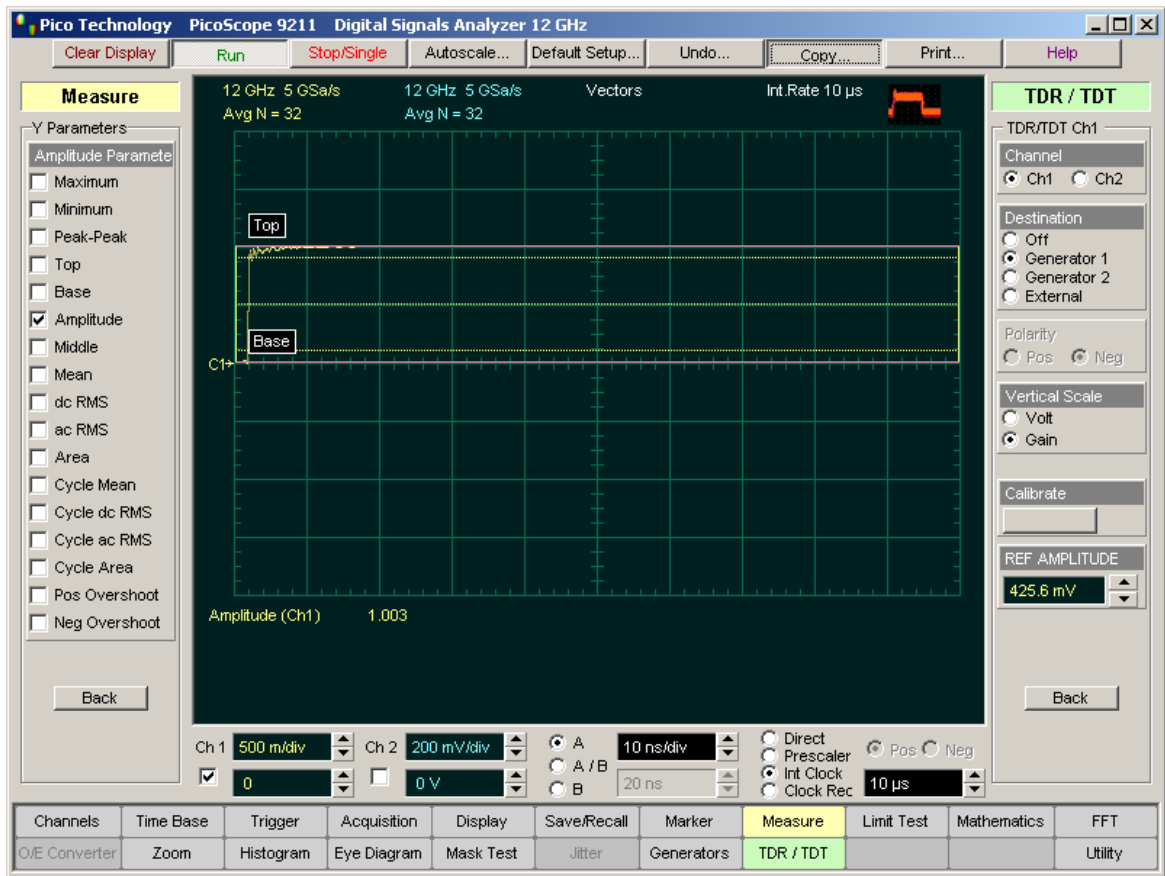

Figure 2
7. Click **Gain** in the **Vertical Scale** menu. See Figure 2.
Figure 2 shows that the gain value is close to 1.00 when the DUT is not installed in the TDT measurement circuit.